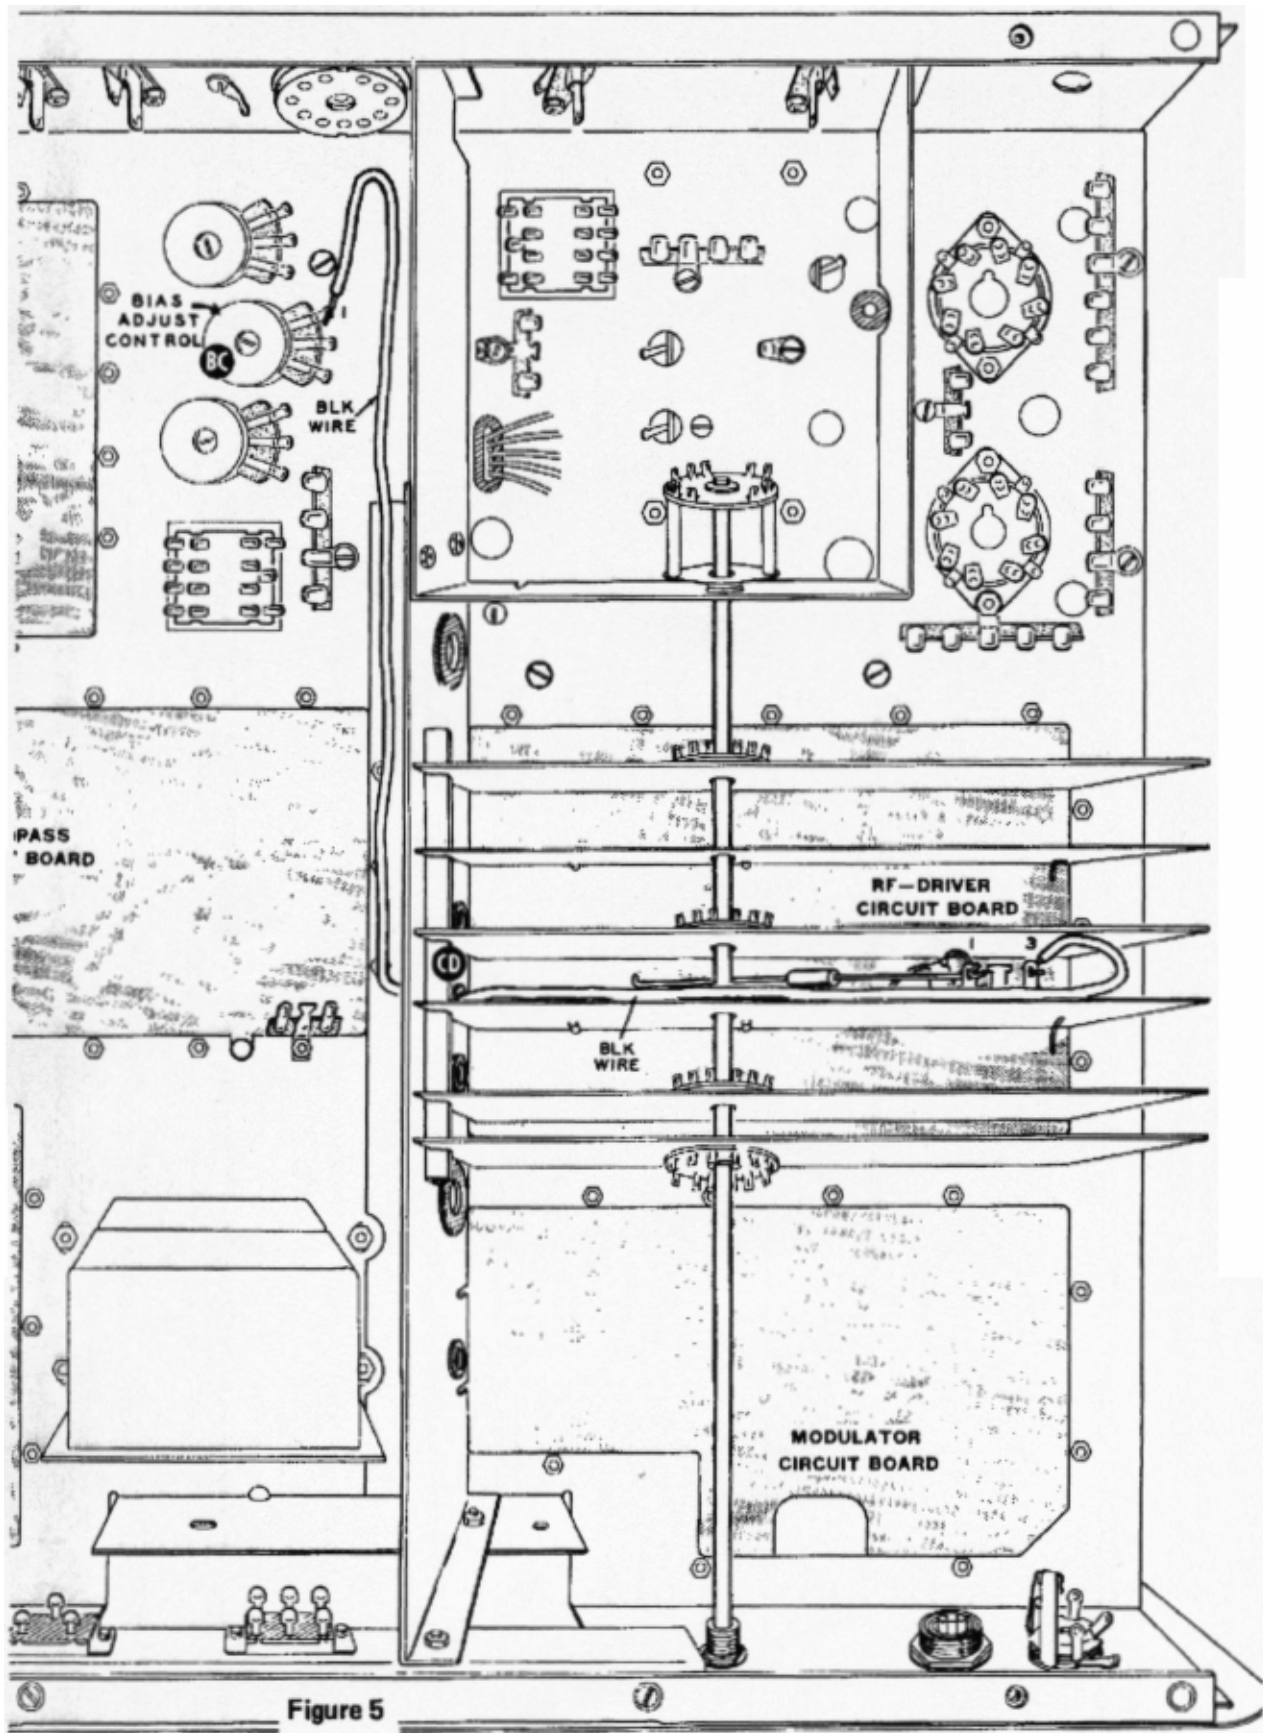

Figure 5
- ( ) Refer to Figure 5 and route the black hookup wire over the bandswitch shaft, as shown, down through grommet CD, and back along the wiring harness to lug 1 of the Bias Adjust control. Position the wire against the switch shield.